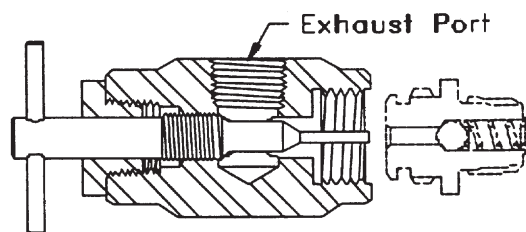

Figure 4
2.2.3 Install the pressure releasing tool (see Figure 4) with the stinger retracted. Turn the stinger until it contacts the ball check, then 1/2 turn further to vent the body. (Caution: Care should be taken to insure that the exhaust port on the side of the vent fitting is directed away from personnel.)
4.2.1 Draining can be accomplished using the pressure release tool (Figure 4) on the combination fitting in the bottom of the body. Remove the safety cap and install the pressure releasing tool with the stinger retracted. Turn the stinger until it contacts the ball check, then 1/2 turn further to drain the body. **(Caution: Care should be taken to insure that the exhaust port on the side of the vent fitting is directed away from personnel.)**